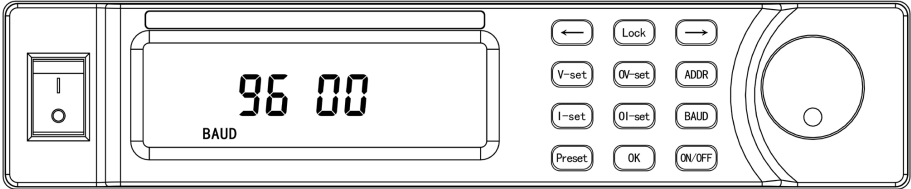

Fig.6-1
- 1) Press BAUD key to enter baud rate setup mode (refer to Fig.6-1)